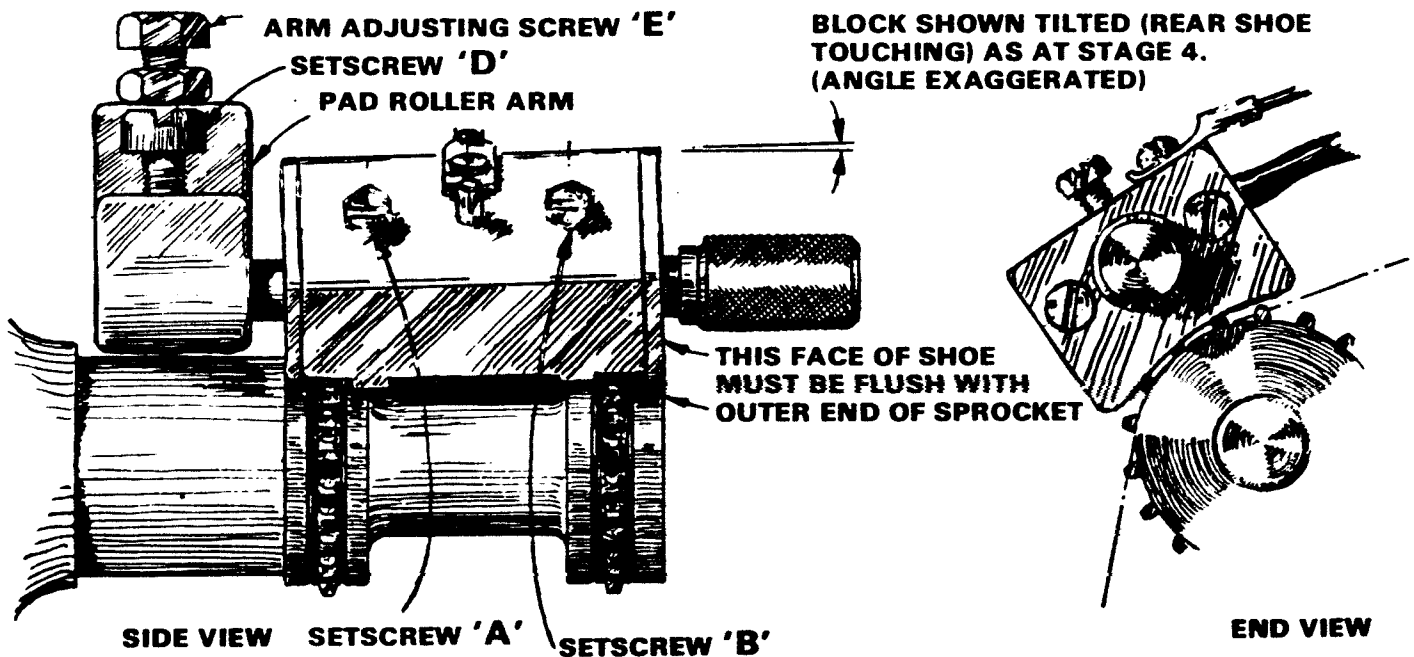

FIG. 2
2. Adjust pad roller to *raise* it, about one turn of its adjusting screw "E", Fig. 2 (this drawing shows the arrangement in Century equipment—others have slightly different means for adjustment). Loosen setscrew "D", remove old shaft and roller, and discard them.
Twist shaft and move in or out until position of outer shoe complies with instructions in Fig. 2 (IMPORTANT). Lock the shaft in place with setscrew "D" *as tightly as you can*.